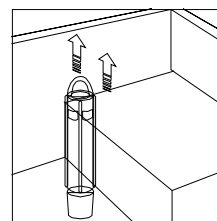

Fig. 13
- Raise hood and remove overflow tube to drain the unit (Fig. 13). **DO NOT LOOSE O’RING!**